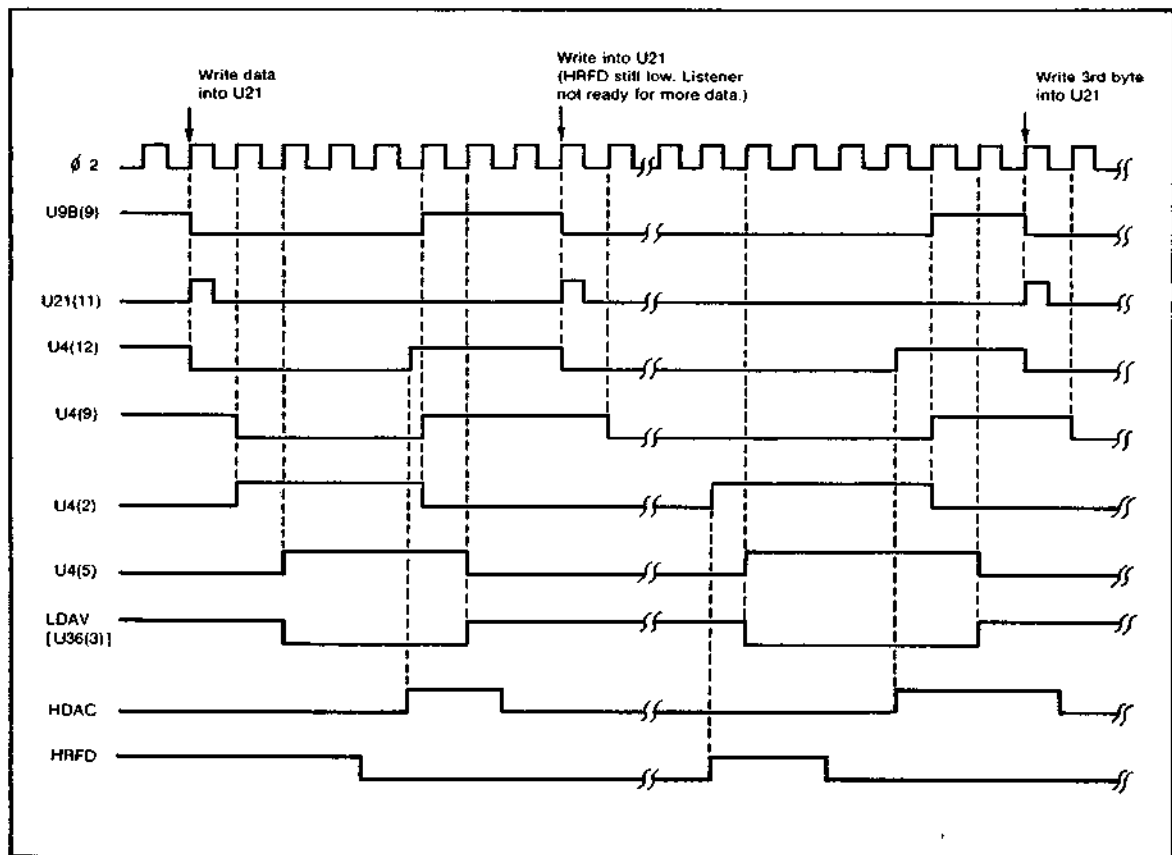

Figure 8-18. Source Handshake Timing Diagram
8-337. A timing diagram of a typical source handshake is shown in *Figure 8-18*. Since U9B(9) is high, the microprocessor clocks data into U21. This clock also resets U9B(9) low. U9B(9) going low causes the input to flip-flop U4B to go low, and U4B's output goes low on the next  $\phi 2$  clock positive transition. Since U4(9) is low and HRFD is high, the input to flip-flop U4A(2) goes high and the U4(5) output goes high on the next clock. When U4(5) goes high, LDAH at U36(3) goes low. Sometimes later the listener set HDAC high to indicate that the data has been accepted. HDAC going high causes the U4(12) flip-flop input to go high and the U4(9) output goes high on the next clock pulse. Since U4(9) is high and U4(5) is high, U12(6) goes high and sets the Data Ready flip-flop U9(9) to high. When U9B(9) goes high, U4(2) input goes low and causes the U4(5) flip-flop output to go low on the next clock. This causes LDAH to return high. After LDAH goes high, the listener reset HDAC low in preparation for the next handshake cycle. Since U9B(9) is high, the microprocessor writes the second data byte into U21. U21(11) going high resets U9B(9) to a low which sets the U4B(9) flip-flop output low. However, the source handshake logic can not indicate the presence of the second data byte (by pulling LDAH low) until the listener sets HRFD high. When HRFD finally does go high, the output of flip-flop U4(5) goes high on the first clock after HRFD goes high. U4(5) going high sets LDAH low. When the listener senses LDAH low, it sets HRFD low and the process continues as previously described.